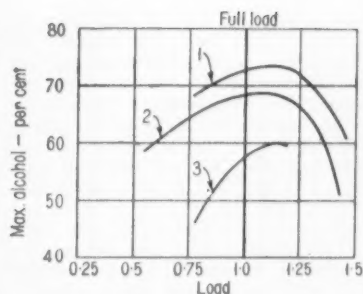

Fig. 4a. Petter engine: Compression ratio 16.5:1. Speed 1,500 r.p.m. Injection timing 27 deg B.T.D.C.
Test results: The test results are graphically presented in Figs 4a, 4b, 4c, 5, 6 and 7, and summarized below:
1. Under full load conditions nearly 70 per cent of alcohol could be inducted in combination with Grade A fuel. On the other hand, under the same load conditions, only 60 per cent of alcohol could be inducted in combination with either Grade B fuel or furnace oil. Under overload conditions slightly lower percentages of alcohol could be inducted, Fig. 4a.